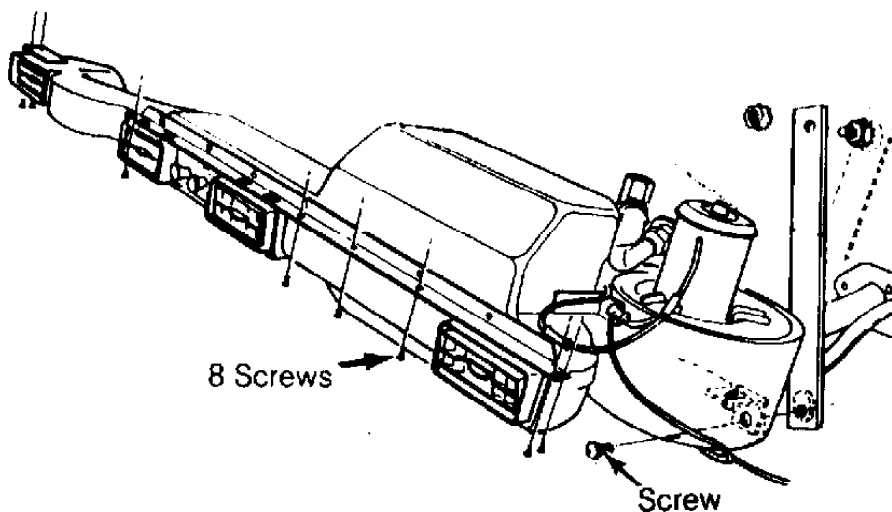

Fig. 2: Wrangler Evaporator Housing Mounting Screw Locations
1) Discharge system using approved refrigerant recovery/recycling equipment. Disconnect inlet line at compressor. Disconnect hose, at quick-disconnect coupling, between receiver-drier and evaporator. Remove hose clamps and dash grommet retaining screws. See Fig. 2.